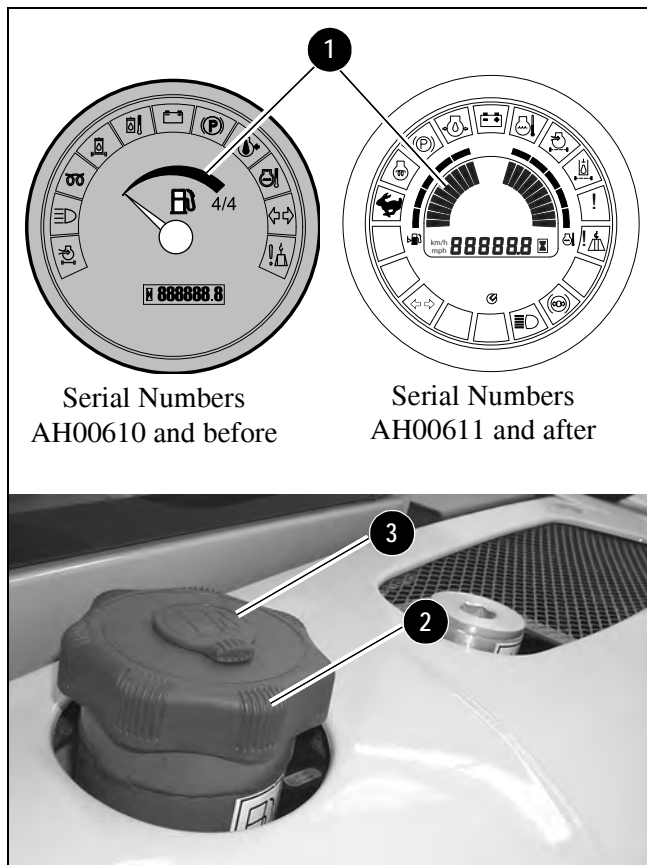

Figure 4-5 Fuel Gauge & Fuel Filler Cap
The fuel level in the tank is indicated by the fuel gauge (1) on the console. See Figure 4-5.
The fuel filler cap (2) is located on the left rear of the machine behind the cab. To fill the tank, remove the fuel filler cap (2) by using the ignition key to unlock the cap. See Figure 4-5. Fill the fuel tank with clean diesel fuel with a cetane rating over 45. After fueling, re-install fuel cap.